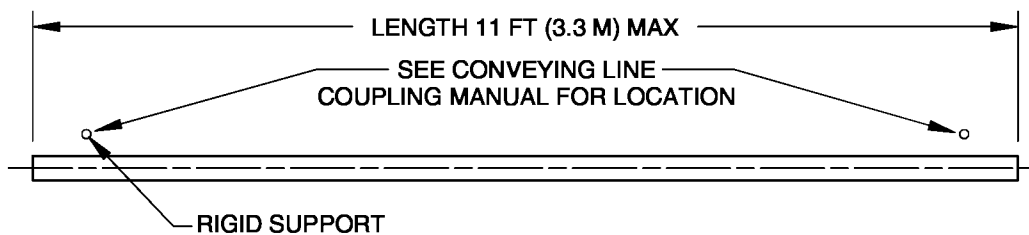

Fig. 4
4. All conveying line longer than 4 ft (1.2 m) with compression coupling connections should be supported rigidly in two (2) places (see Fig. 4).